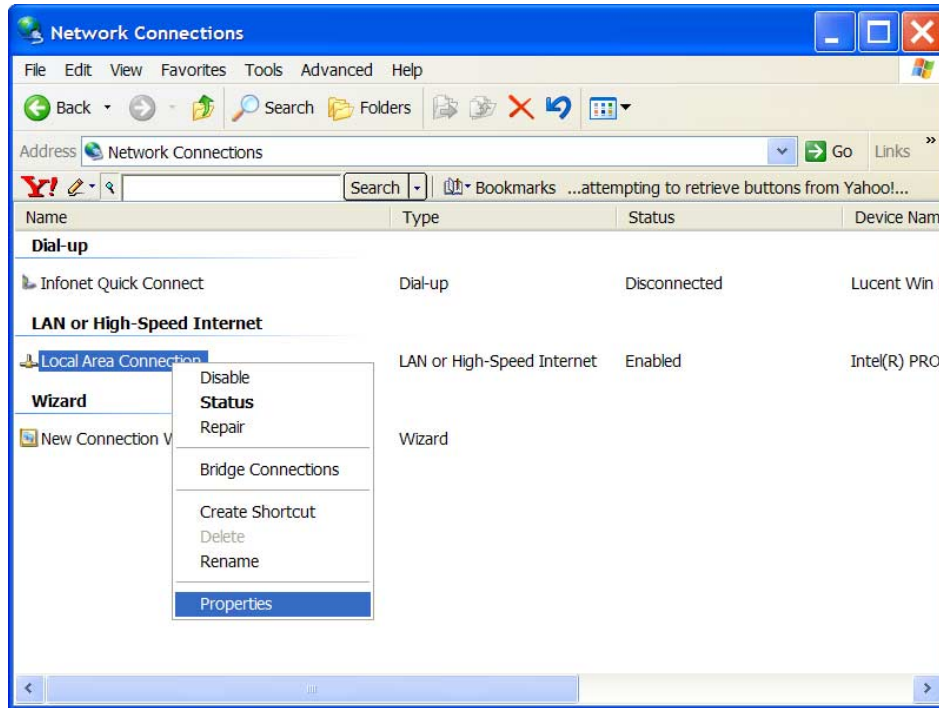

Figure 13 – Network Connections Window
3. Right-click on "Local Area Connection" and select "Properties" as shown in Figure 13.